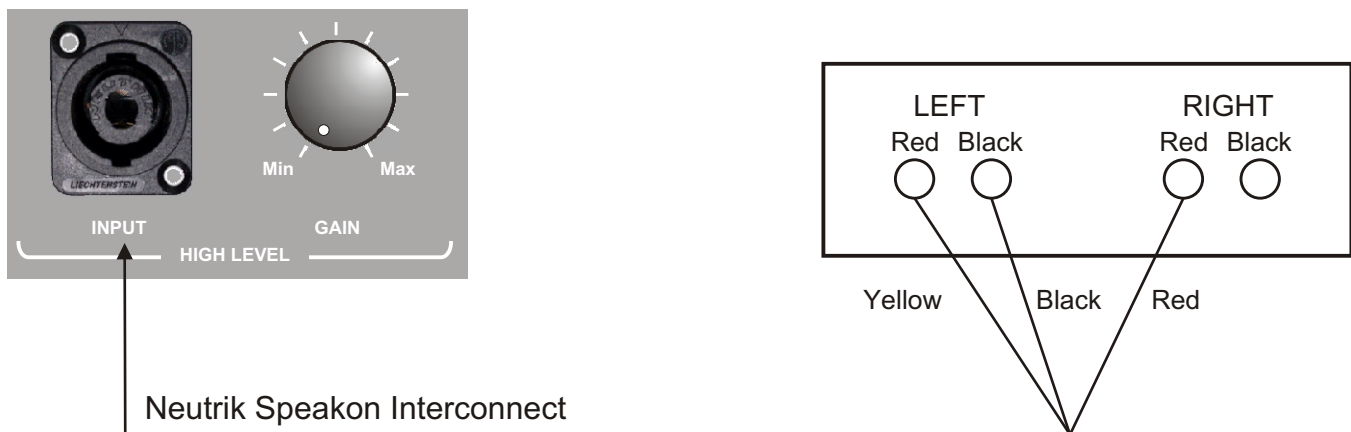
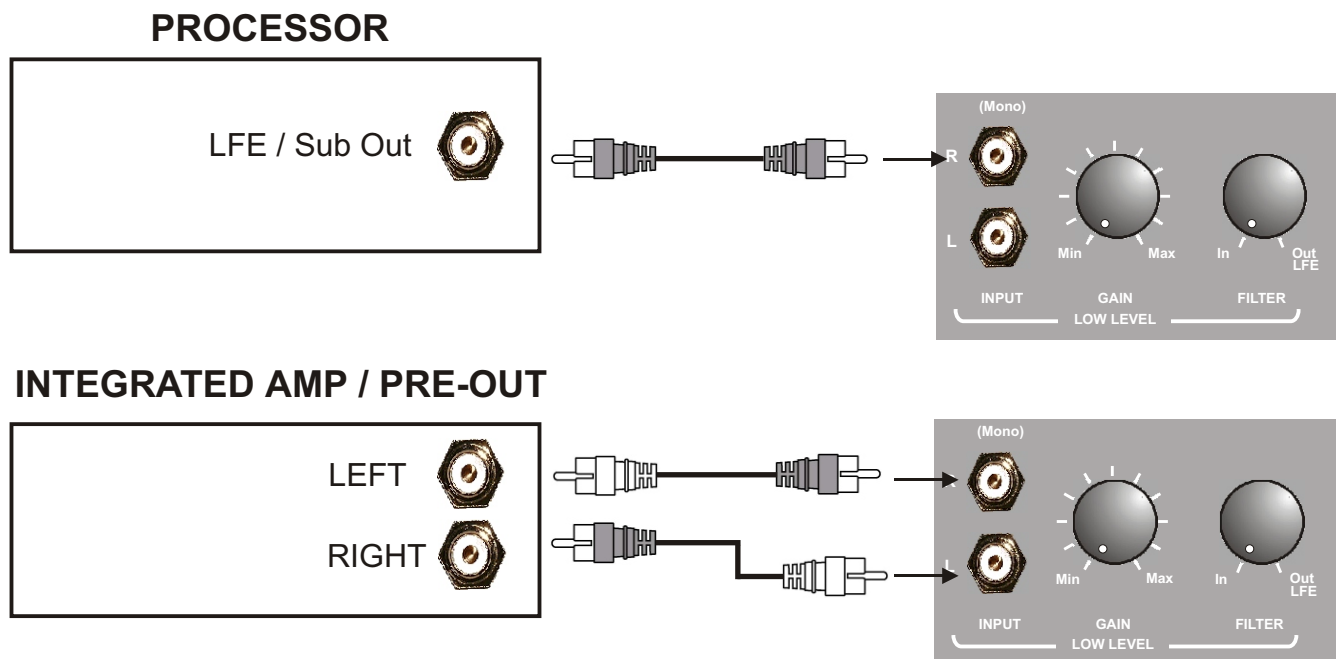

Figure 1.
Figure 2.
Figure 1. Shows a diagram on how to connect the high level input. Using the optional Neutrik lead, connect the XLS200 to the output of your amplifier via your existing speaker plug or to a spare set of speaker terminals if available. In effect you are Bi-Wiring your XLS200 to your power amp. Please note that the Neutrik cable has only three leads and is arranged this way to preserve the star earthing of your amplifier (assuming it has a star earth arrangement).
Figure 2. Shows a diagram on how to connect the low level input. Using the supplied RCA to RCA interconnect, plug one end into the XLS200 low level input and the other end into the dedicated sub output on your amplifier or processor. If a sub out is not available then you can use a spare set of pre-amp outputs.
- Connect your XLS200 as shown in Figure 1 or Figure 2. Then attach your subwoofer to the power supply using the power cable supplied, at this point have the power switch in the off position.